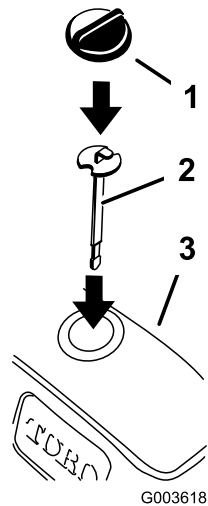

Figure 36
3. Insert the new dipstick and check the hydraulic oil level (Figure 36)